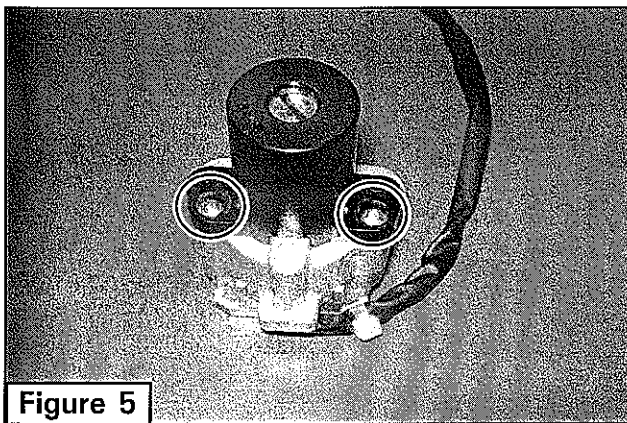

Figure 5
2. Remove the two black plastic covers to access the cylinder cap mounting bolts (Figure 5).